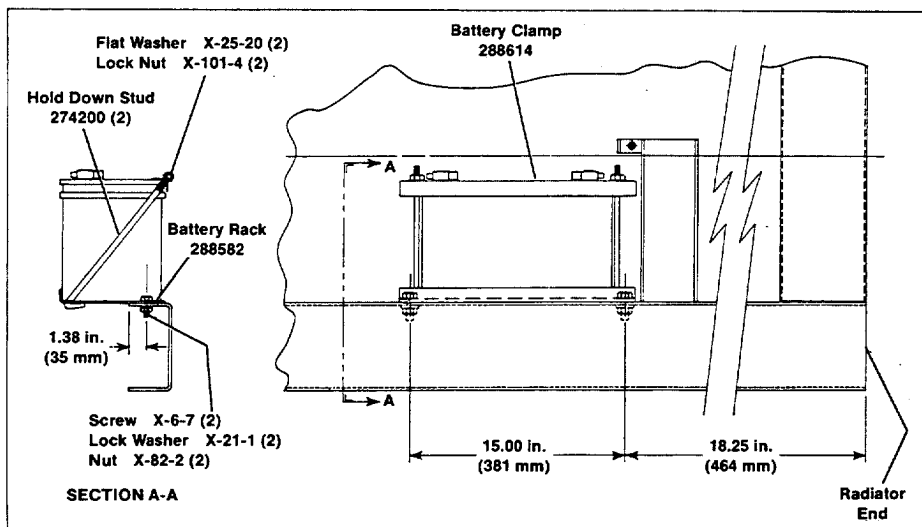

Figure 1. Mounting Battery Rack (20 ROZ)
3. Measure distance from radiator end and from inside edge of skid, using dimensions given in Figure 1 or 2.
Figure 1 is for Model 20 ROZ and mounts battery rack on *right* side when viewed from generator end.